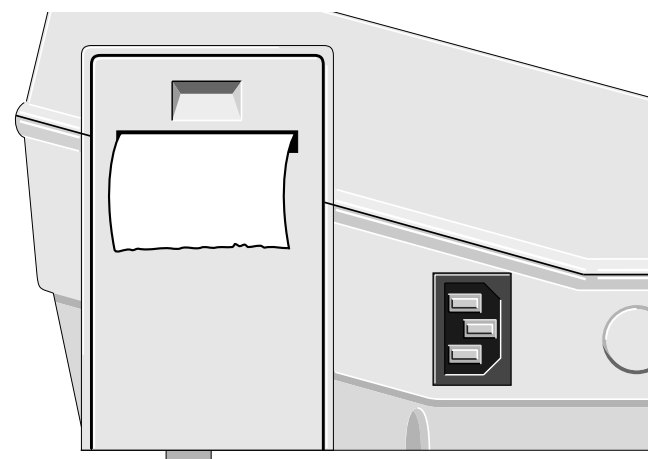

Figure 3-4. Recording strip
- * Check that the supply of chart paper is sufficient (Figure 3-4). A stripe marks the last 3 meters of the roll.